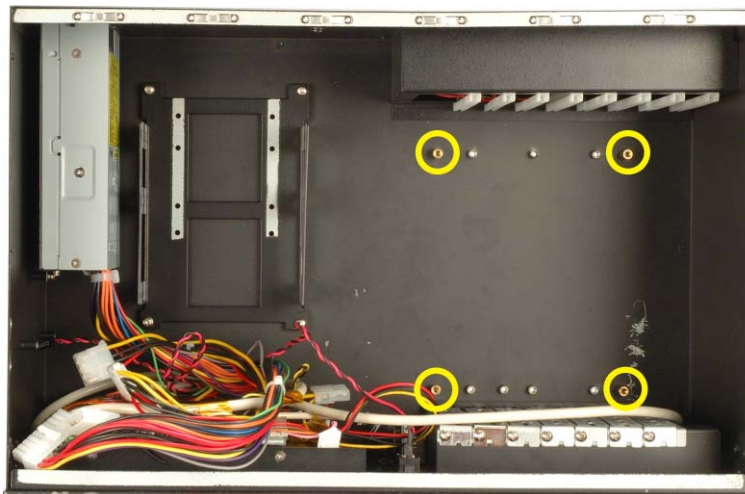

Figure 4-4: Install Copper Pillars and White Spacers
Step 1: Install the correct amount of copper pillars (**Figure 4-4**) into the base of the chassis.
The backplane shown in **Figure 4-4** is an example for reference only. The location and number of copper pillars depends on the backplane being used.